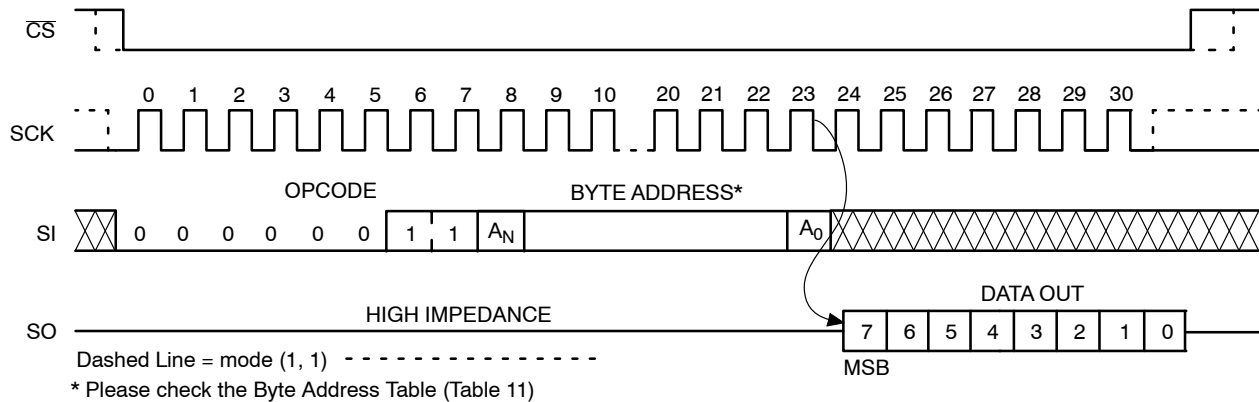

Figure 9. READ Timing
After receiving the last address bit, the CAV25512 will respond by shifting out data on the SO pin (as shown in Figure 9). Sequentially stored data can be read out by simply continuing to run the clock. The internal address pointer is automatically incremented to the next higher address as data is shifted out. After reaching the highest memory address, the address counter “rolls over” to the lowest memory address, and the read cycle can be continued indefinitely. The read operation is terminated by taking $\overline{CS}$ high.
Reading the additional 128-byte Identification Page (IP) is achieved using the same Read command sequence as used for Read from main memory array (Figure 9). **The IPL bit from the Status Register must be set (IPL = 1) before attempting to read from the IP.** The [A6:A0] are the address significant bits that point to the data byte shifted out on the